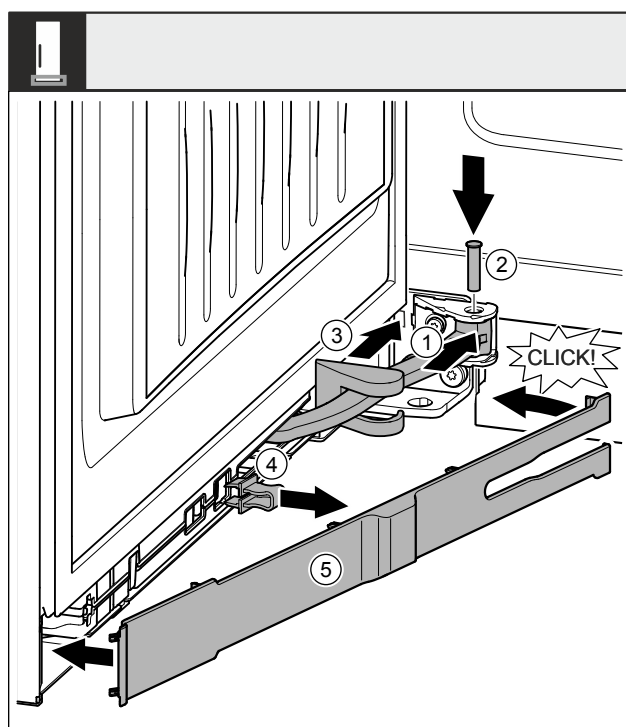

Fig. 47
- ▶ Turn the joint Fig. 47 (1) in the hinged suspension.
- ▶ Use a screwdriver to insert the pin Fig. 47 (2) into the hinged suspension and joint. In the process, make sure that the latching cam is correctly positioned in the groove.
- ▶ Slide the swap bearing block cover Fig. 47 (3) along the joint and install it above the hinged suspension.
- ▶ Remove the locking device. Fig. 47 (4)
- ▶ Attach the panel Fig. 47 (5) from the handle side and swivel it on.